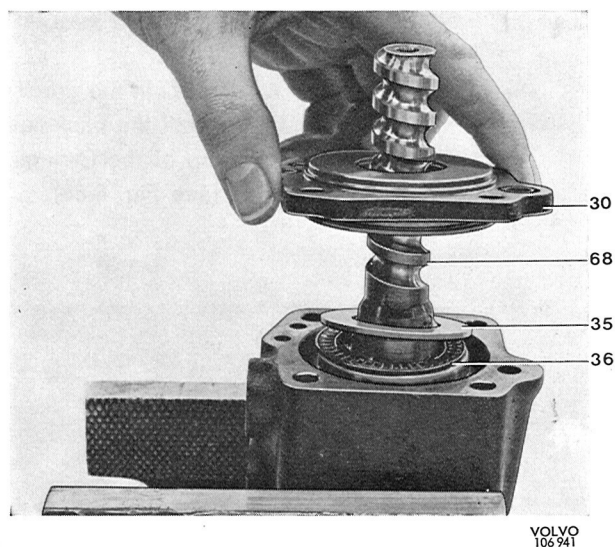

Fig. 6-86. Installing cover
2. Tighten the valve housing (56) with the large bore facing upwards (see Fig. 6-86). Install
the preassembled worm in the housing. Install the needle bearing (61), the bearing washer (35) and the cover (30), see Fig. 6-86. Secure the cover with the bolt (50 and 52) and four nuts M8. Tightening torque is  $34\text{ Nm}$  ( $25\text{ lbft}$ ). Check to make sure there is no looseness in the journaling. A torque of  $.15\text{—}.25\text{ Nm}$  ( $1.3\text{—}2.2\text{ lbin}$ ) is required to turn the worm. If this is measured according to Fig. 6-87, the scale should read  $17\text{—}29\text{ N}$  ( $3.7\text{—}6.4\text{ lbs}$ ).